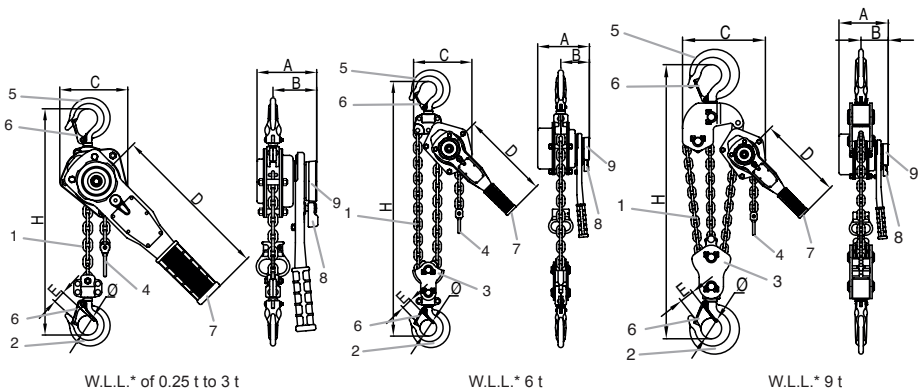

Fig. 1
The bravo™ hoist is supplied with a standard 1.50 m length of load chain (item 1, fig. 1). The load chain used with the 0.5 t to 3 t models is formed by a single strand with a lifting hook (item 2, fig. 1) at its end. The load chain used with the 6 t model is formed by two lifting
strands and a sheaved lifting hook (item 3, fig. 1).
The free end of the chain is equipped with a low limit stop (item 4, fig. 1).
1. Check that the bravo™ hoist is properly suspended by its suspension hook (item 5, fig. 1) and that the hook safety catch (item 6, fig. 1) is properly closed (see figs 2 and 3).
The bravo™ hoist is operated by means of an actuating handle (item 7, fig. 1) which is moved back and forth by the operator to lift or lower a load, pull a load, or apply tensioning.
2. Set the movement selector lever (item 8, fig. 1) to the neutral position "0".